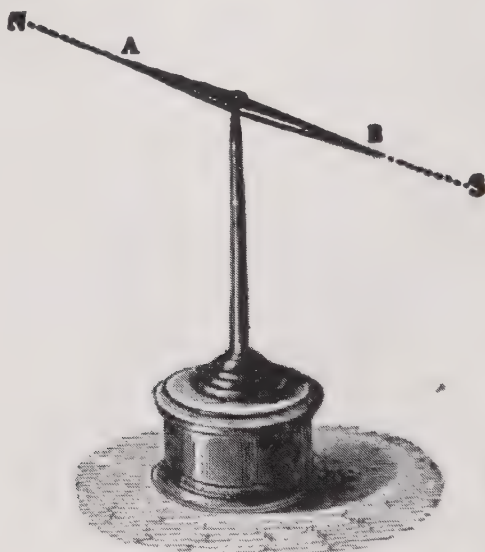
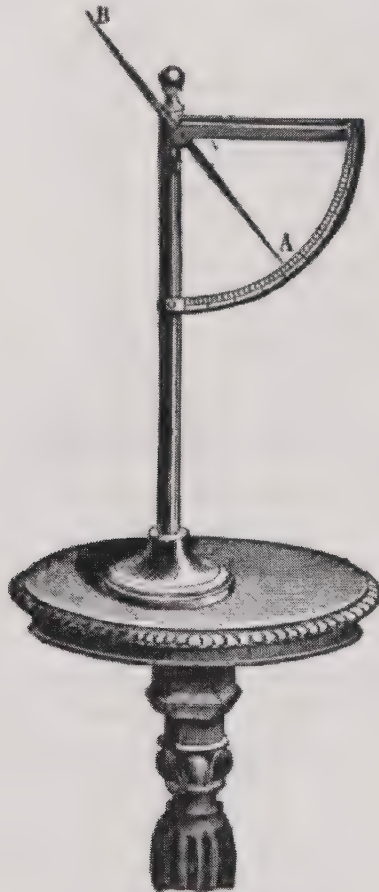

Fig. 69. Magnetic Needle.
Fig. 72. Dipping Needle.
*Answer.* It is a long slender magnet, as compared with its own width and thickness, fitted with a cap in the center so that it may be balanced on a pivot or hung from a thread. This allows it to turn freely. Fig. 69.
*Answer.* Near the equator of the earth a needle may be balanced and then magnetized, but in other places if the needle is balanced and then magnetized one end of the needle will dip. Fig. 69 shows this. If the needle is mounted so that it can turn with perfect freedom vertically as in Fig. 72 it will in Chicago incline from the horizontal line about  $70^\circ$ .